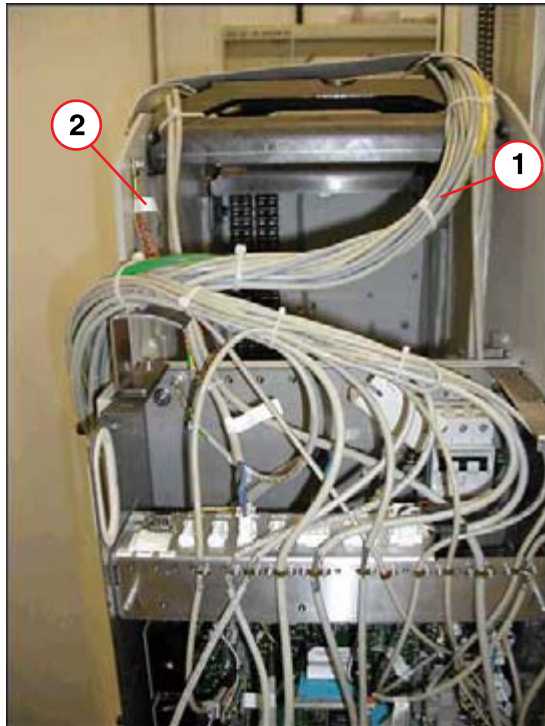

Fig. 19: Wiring
- Run the cable strand to M2 underneath the cover (1/Fig. 19 / p. 21).
Attach the shielding (2/Fig. 19 / p. 21).